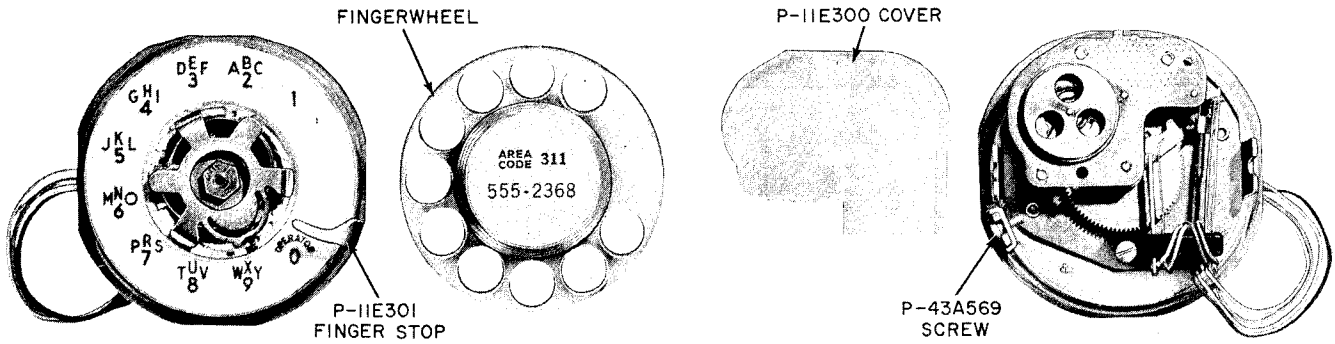

Fig. 8 - 8-Type Dial
2.05 See Tables G and H and Fig. 8 for use and assembly of parts and Table I for number plates.